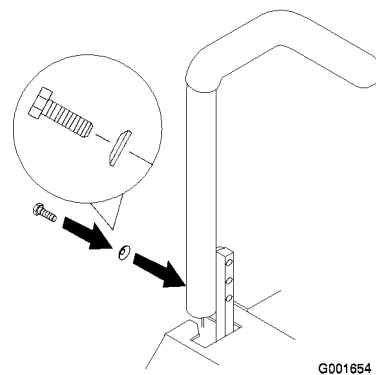

Figure 48
3. Loosen the bolts and curved washers installed in the levers (Figure 48).